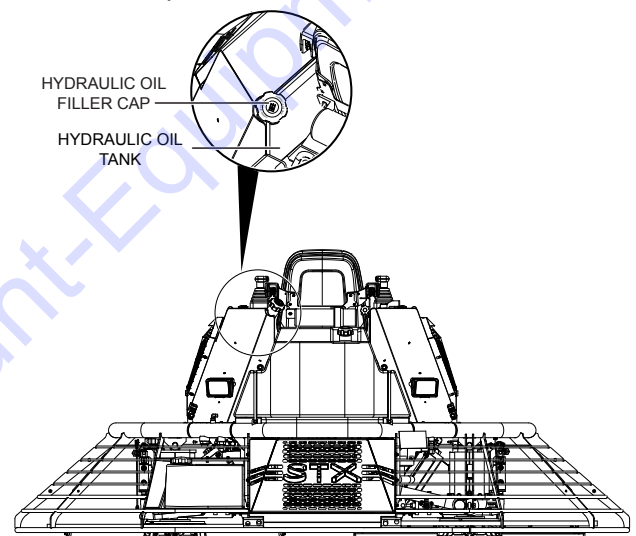

Figure 14. Hydraulic Oil Check and Fill
2. Visually inspect the hydraulic oil tank (Figure 14). For normal operation the fluid level should be visible when the filler cap is removed.